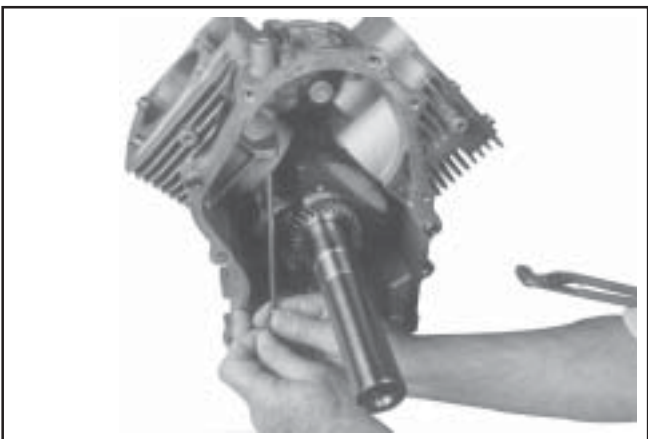

Figure 9-59. Removing Governor Cross Shaft.
2. Remove the cross shaft through the inside of the crankcase. See Figure 9-59.